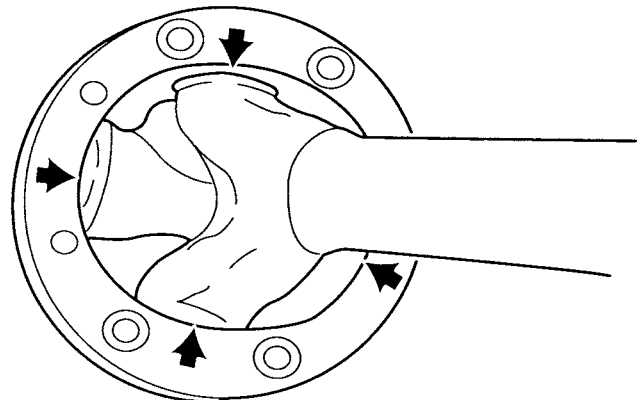

Figure 27 Checking Cage Ring and Axle Shafts for Free Movement
25. Position and check the axle shafts to make sure that they move freely to at least 30° on both sides of center during a full 360° revolution. Torque the cage ring capscrews to 95 lb. ft. (129 N•m). Lock the capscrews with a punch mark across the threaded end of the capscrew which extends through the cage ring. (See Figure 27).